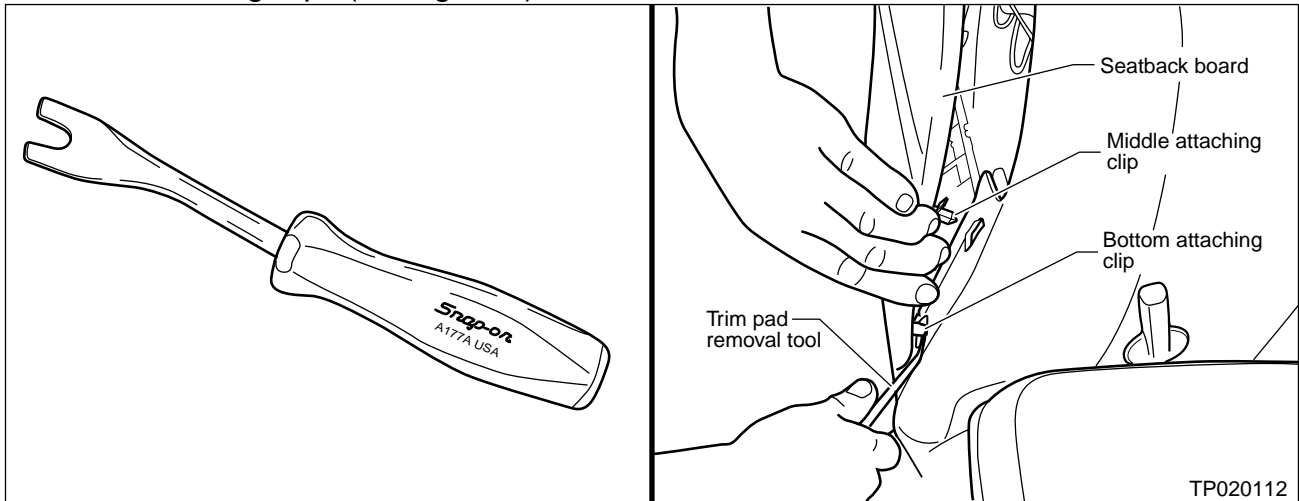

Figure 3
- Use a Trim Pad Removal tool (Snap-on A177A or equivalent) to remove the middle and bottom attaching clips (see figure 3).